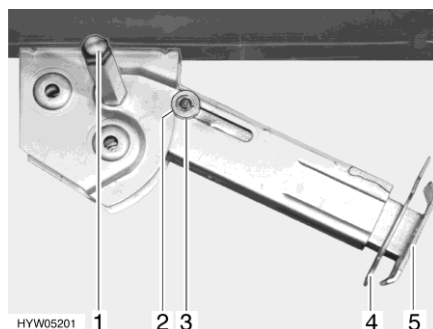

Fig. 42 Steady leg
- Place the socket spanner on the hexagon nut (Fig. 42,1) and rotate until the steady leg is in a perpendicular downward position.
- Remove the splint (Fig. 42,4) out of the support foot extension (Fig. 42,5).
- Place the socket spanner on the hexagon nut (Fig. 42,1) and rotate until the steady leg is clear of the ground.
- Push in the support foot extension (Fig. 42,5) and insert the splint (Fig. 42,4) in the drilled hole in the support foot extension.
- Rotate the hexagonal nut (Fig. 42,1) with the socket spanner until the steady leg has swung upwards and the guide disc (Fig. 42,3) has completely retracted into the notch (Fig. 42,2).